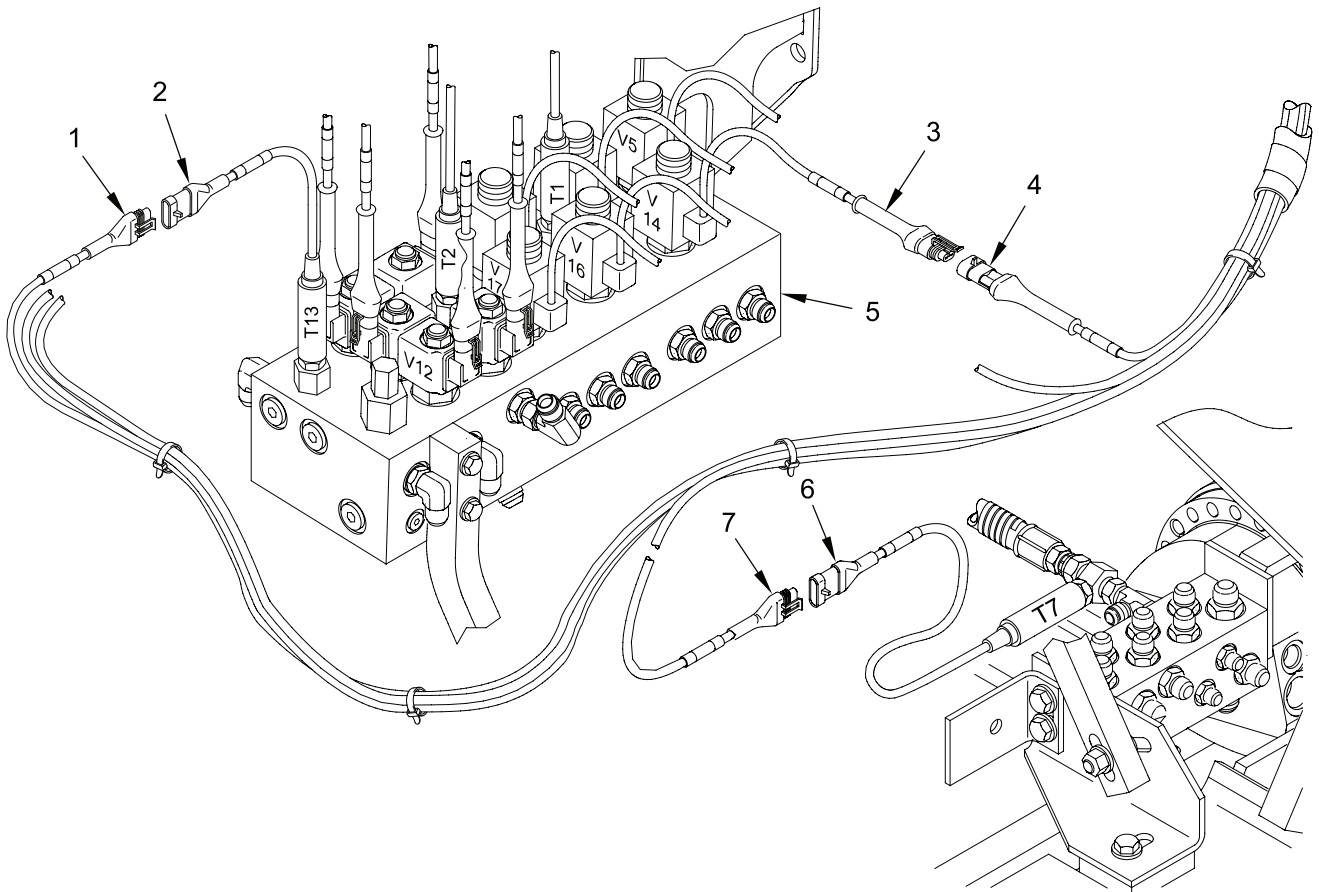

Figure 4. Installing Wiring Harness W2 To Main Manifold
3. In the vehicle bowl at the HDC main manifold connect wiring harness W2 connectors as follows: P2, P31, and P32 (Figure 4, item 1) to transducers T2, T1, and T13 (Figure 4, item 2).
4. In the vehicle bowl at the HDC main manifold connect wiring harness W2 connectors as follows: P1, P5, P11, P12, P13, P14, P15, P16, P17, P19, and P20 (Figure 4, item 4) to valves V1, V5, V11, V12, V13, V14, V15, V16, V17, V19, and V20 (Figure 4, item 3).
5. In the vehicle bowl bottom area connect wiring harness W2 connector P7 (Figure 4, item 7) to transducer T7 at left main manifold (Figure 4, item 6).